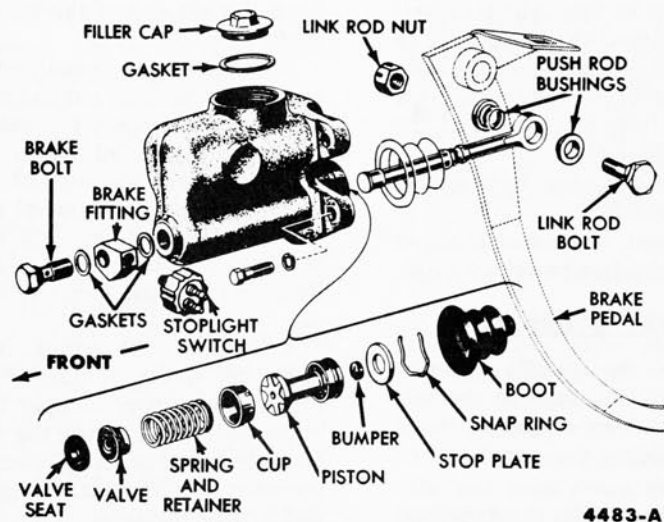

FIG. 8—Brake Master Cylinder—Disassembled
2. Remove the rubber boot and snap ring from the bore at the rear end of the cylinder (Fig. 8). Remove the stop plate, piston, cup, spring, valve, and seat from the cylinder bore. If necessary, blow through the bolt hole at the forward end of the bore to remove the parts.
2. Install the valve seat, valve, spring, cup, piston, and stop plate in the cylinder bore (Fig. 8). Install